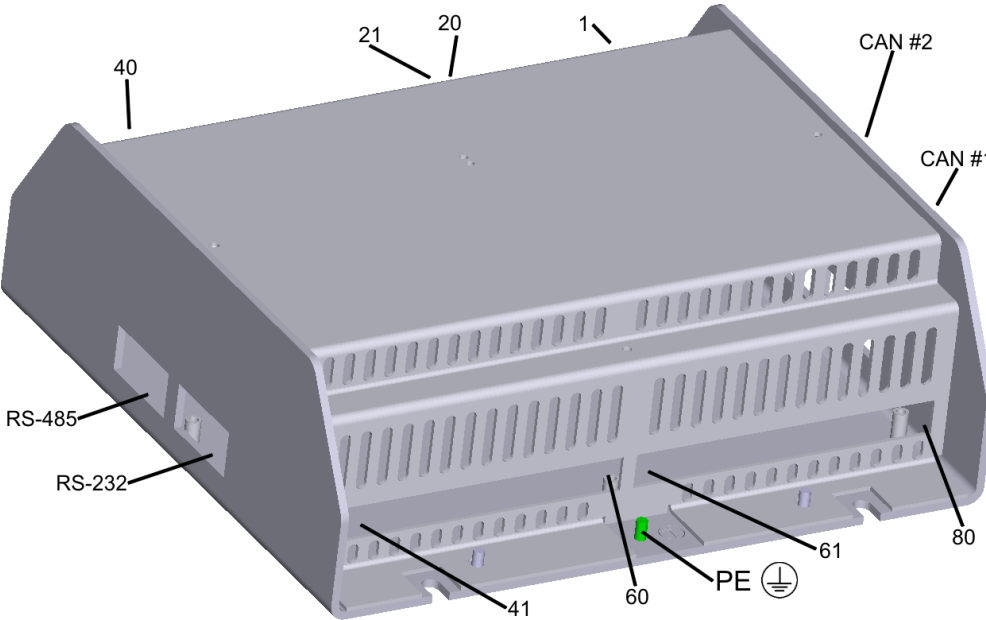

Figure 4-9: easYgen-3100 - terminal arrangement
The Protective Earth terminal 61 is not connected on the easYgen-3100 with sheet metal housing. The protective earth connection at the sheet metal housing must be used instead (refer to Figure 4-9).
The Protective Earth terminal 61 is not connected on the easYgen-3100 with sheet metal housing. The protective earth connection at the sheet metal housing must be used instead (refer to Figure 4-9 on page 17).
- **easYgen-3100:** The protective earth terminal 61 is not connected on the easYgen-3100 with sheet metal housing. The protective earth connection at the sheet metal housing must be used instead (refer to Figure 4-9 on page 17).